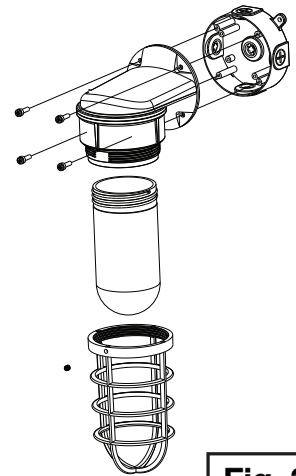

Fig. 3
2. Remove the heatsink portion of the base junction box by removing the four (4) 3/4" long socket head screws. Make sure that all components are set aside for later use (see Fig. 3).